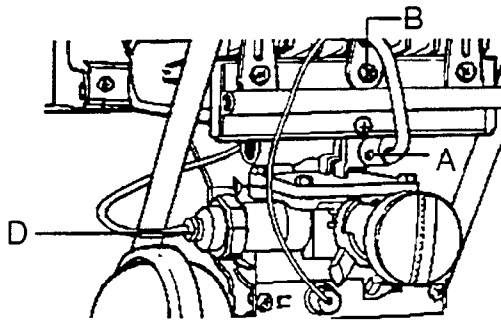
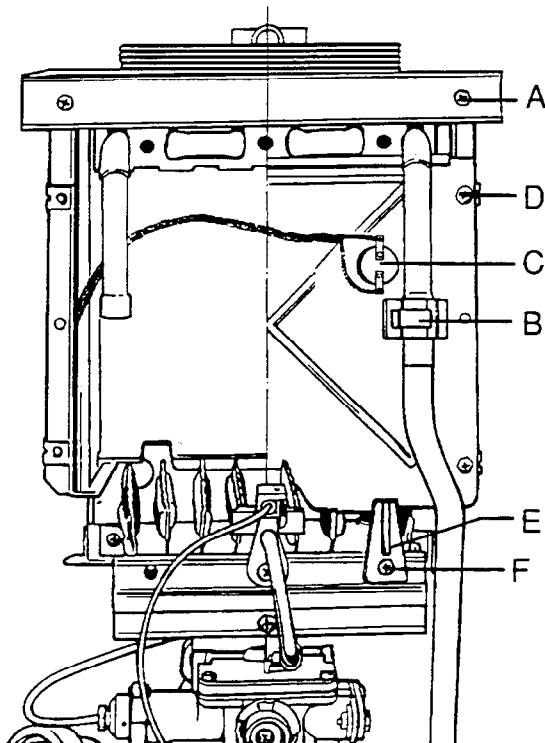
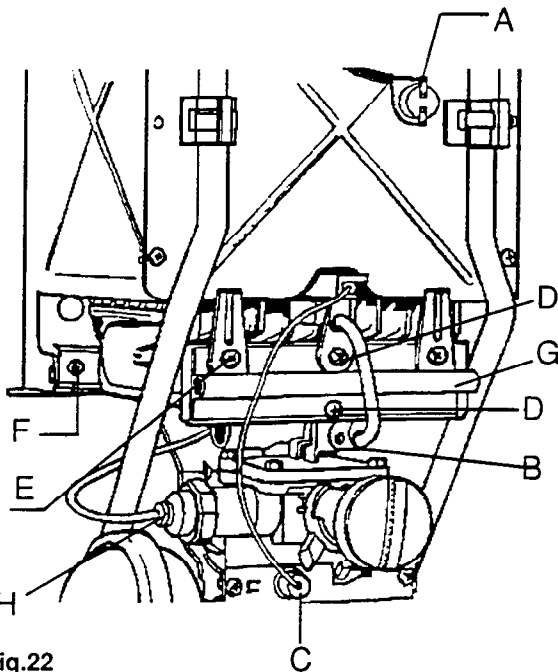

Fig.13
Fig.20
Fig.22
- a) Remove the thermal switch (c) by pulling forwards from its support bracket (see section 7.8 fig. 20).
- b) Disconnect from thermoelectric valve (D).
- c) Remove pilot tube by loosening screw (A) and pulling forwards.
- d) Remove screw (B) top centre of burner manifold and pull pilot assembly forwards (see fig.13).
- b) Remove pilot tube by loosening screw (A - fig. 13) and pulling forwards.
- c) Remove the electrode in the pilot bracket by undoing and removing the screw (A) and sliding the retaining plate (B) out.
- d) Disconnect lead from the piezo unit cartridge (C).
- a) Remove two screws (A) holding the deflector plate in position (see fig. 20).
- c) Disconnect joints at junction where heating body joins heating body legs (B). (see 6.8).
- f) Remove the thermal switch (C) by pulling forwards from its support bracket.
- h) Remove brackets (E) which are retained by screws (F) onto burner manifold.
- i) Remove the four screws (D) which retain the combustion chamber front cover.
- a) Remove the thermal switch (A) by pulling forwards from its support bracket (see fig. 22).
- b) Slacken screw (B) at the base of the pilot tube where the pilot tube is joined onto the gas section. Remove tube by pulling forwards.
- c) Remove the electrode lead from the piezo unit cartridge by pulling off (C).
- d) Remove the two screws (D) and the two screws (E) securing the manifold.
- Note :** The pilot bracket is secured by the top centre screw (D) on the burner manifold (G).
- e) Remove the manifold (G).
- f) Remove the two screws (F) which secure the burner to the chassis.
- g) Disconnect the thermocouple connection (H) at the gas control and manoeuvre the pilot bracket outwards.
- b) Remove pilot tube by loosening screw (A) (fig. 13) and pulling.